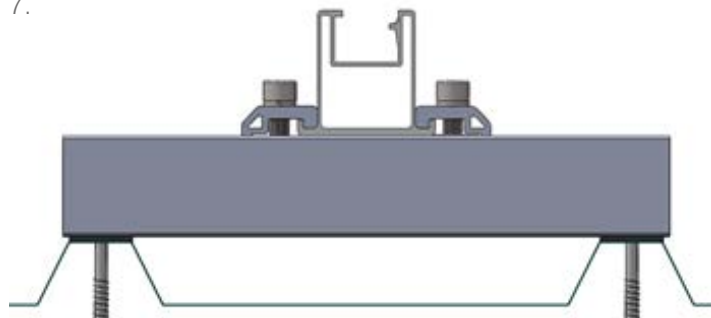

Figure 6
5.2.3 Fix the Rail onto the MT-Rail Support with T-Rail Clamps as shown in Figure 6 and 7.